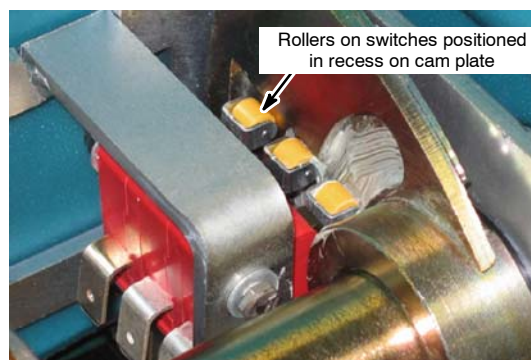

Fig. 14
f. **(1510, 1530, 1610, Strive® models)** Position the cam plate so the switches are disengaged and fall in the recessed area on the cam plate. Also, the cam plate should be just touching, but not tight against the plastic bushing in the bracket. Once this position is achieved, secure the cam plate with the set screw - add blue thread adhesive to the set screw threads (Figure 14).